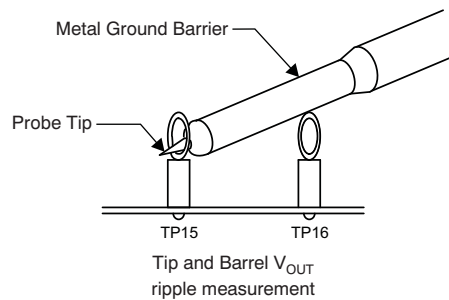

Figure 3. TPS40193EVM-001 Output Ripple Measurement—Tip and Barrel Using TP15 and TP16
Oscilloscope: A digital or analog oscilloscope can be used to measure the ripple voltage on V_{OUT} . The oscilloscope should be set for 1M Ω impedance, 20MHz bandwidth, ac coupling, 1 μ s/division horizontal resolution, and 10mV/division vertical resolution for taking output ripple measurements. TP15 and TP16 can be used to measure the output ripple voltage by placing the oscilloscope probe tip through TP15 and holding the ground barrel to TP16, as shown in Figure 3. For a hands-free approach, the loop in TP16 can be cut and opened to cradle the probe barrel. Using a leaded ground connection may induce additional noise because of the large ground loop area.
- Step 4. Connect oscilloscope probe to TP15 and TP16 as shown in Figure 3.